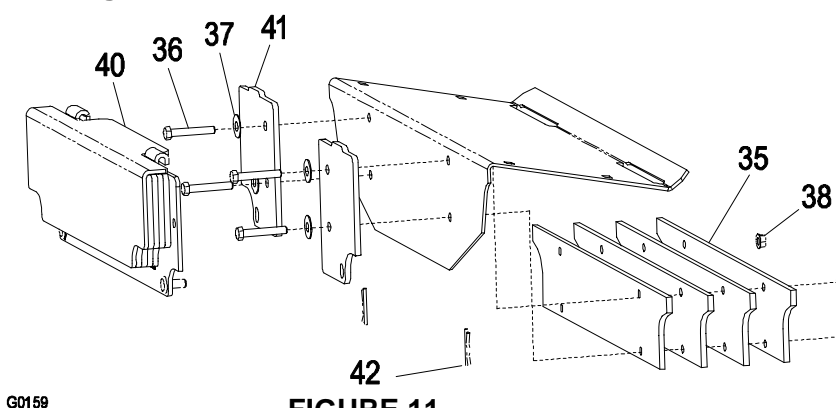

FIGURE 11
- 3.5.6 *For Lazer Z units under SN 440,000 with a ROPS:* Open the floor pan and install (4) weight plates behind the front panel and (2) weight mounting plates (Items 35, and 41) as shown in Figure 11 using (4) 5/16-18 x 2.0 screws, (4) 5/16 flat washers, and (4) 5/16-18 whizlock nuts (Items, 36, 37, and 38).
- 3.5.7 Hook weight plate assembly (Item 40) over the top of the weight mounting plates and secure with two hairpins (Item 42) as shown in Figure 11.
- 3.5.10 Follow steps 3.5.6 through 3.5.7 for weight installation (See Figure 11).